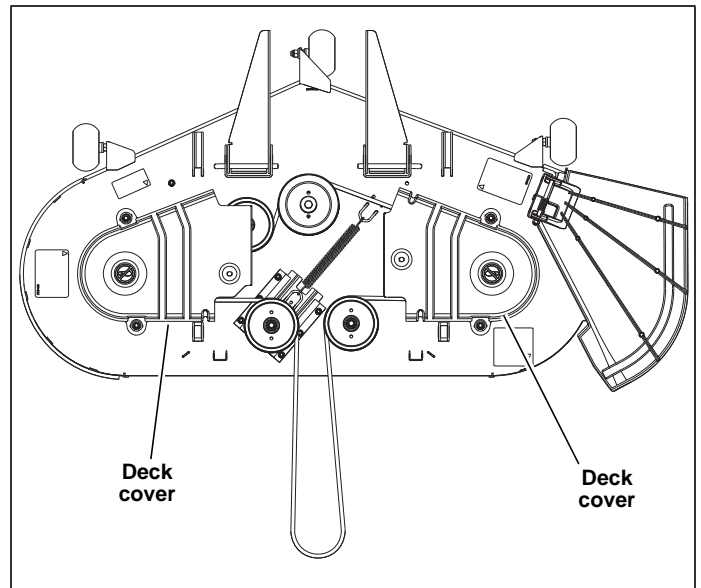

Figure 6-9
3. Remove the deck covers. Figure 6-9
9. Re-install the deck covers. Figure 6-9